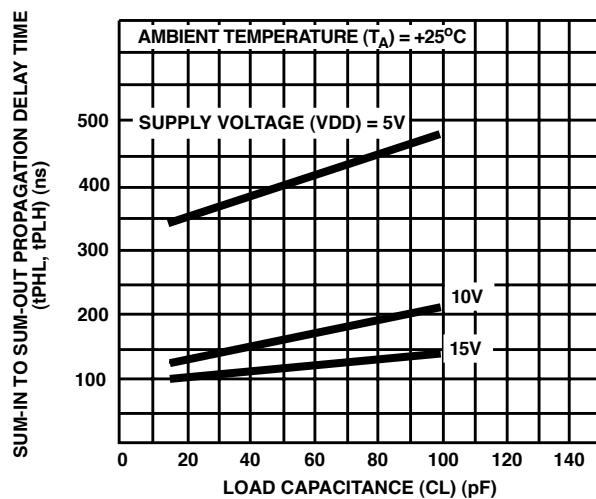

FIGURE 2. TYPICAL SUM-IN TO SUM-OUT PROPAGATION DELAY TIME vs LOAD CAPACITANCE
Applications can read the setting of the DS1023 Delay Line by connecting the serial output pin (Q) to the serial input (D) through a resistor with a value of 1 to 10 kohms (Figure 2). Since the read process is destructive, the resistor restores the value read and provides isolation when writing to the device. The resistor must connect the serial output (Q) of the last device to the serial input (D) of the first device of a daisy chain (Figure 1). For serial readout with automatic restoration through a resistor, the device used to write serial data must go to a high impedance state.
## SERIAL READOUT Figure 2